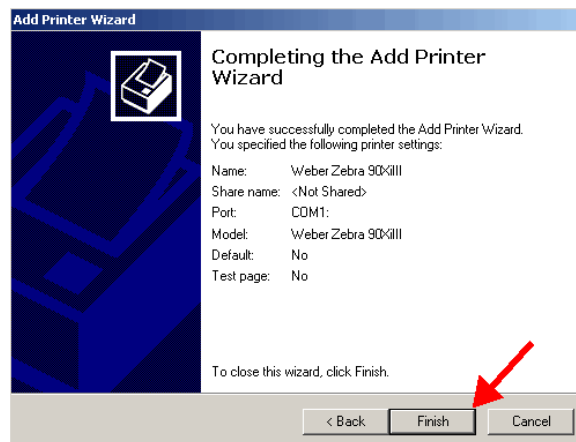

Figure 22
26. Click Finish to complete the Add Printer Wizard. (Figure 22)